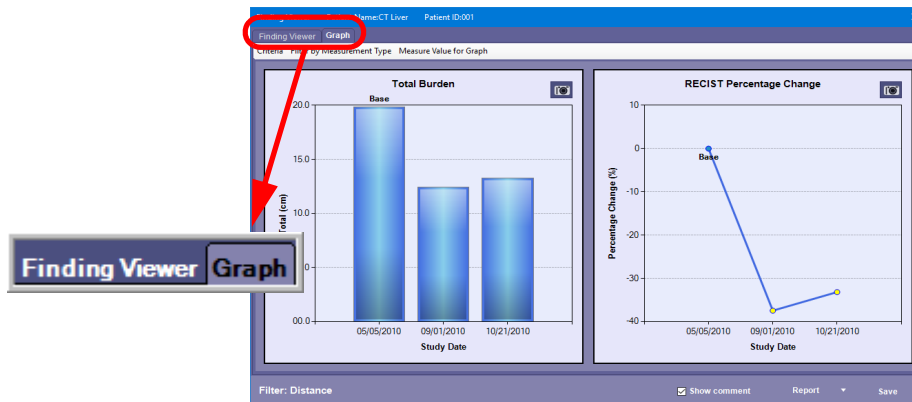

Figure 16-3: Finding Viewer Graph
- Click the camera icon in the upper-right corner of the graph (see Figure 16-3). This captures only the graph that the cursor is on.
All of the icons are now displayed when the mouse is hovered over the region. You can also hover the mouse over each icon to see what its function is (see Figure 16-3 on page 16-12).